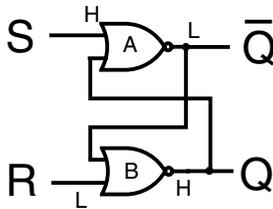

Figure 1-10 A set-reset flip-flop.
Take a look at the schematic of Figure 1-10. This is called a *set-reset (SR) flip-flop*. Having introduced the idea that high means 1 and low means 0, let's stick to numbers for logic values. Imagine that initially S (set) is 1 and R (reset) is 0. Because one input (S) to NOR gate A is 1, then it doesn't matter about the other input to NOR gate A, the output will be 0. This 0 output from NOR gate A means that the top input to NOR gate B will also be 0. The other input to NOR gate B (R) is also 0, so the output of NOR gate B will be 1, making the lower input to NOR gate A also 1. Next, imagine that you now set S to 0. This will have no effect on the output of NOR gate A.